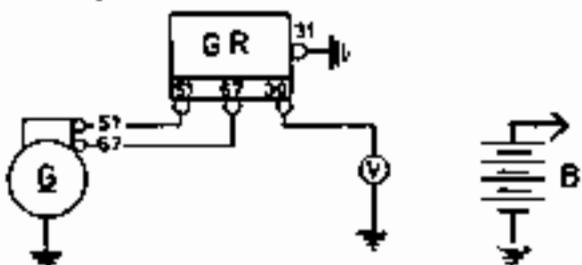

Fig. 8.12. Wiring diagram for testing the voltage regulator
- The circuit needed is shown in Fig. 8.12.